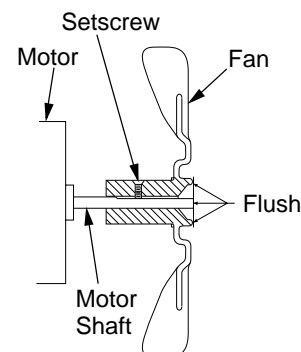

Figure 7 - Fan Cross Section and Setscrew Location
6. Replace fan on motor shaft. Place fan hub flush with end of motor shaft (see Figure 7).